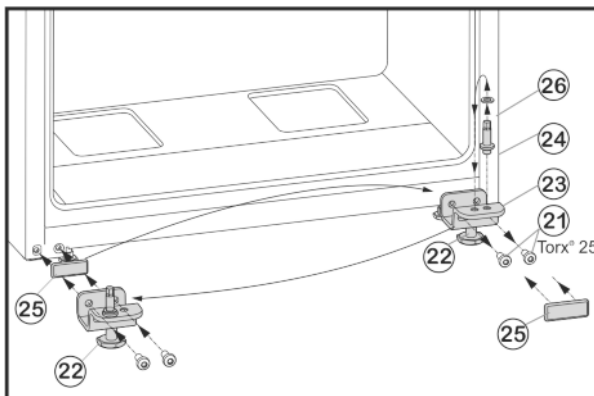

Fig. 6
- ▶ Unscrew fastening screws *Fig. 6 (21)*.
- ▶ Remove lower bearing block *Fig. 6 (23)*, complete with bearing bolt *Fig. 6 (24)*, washer *Fig. 6 (26)* and adjustable foot *Fig. 6 (22)*.
- ▶ Unscrew bearing bolt *Fig. 6 (24)* complete with washer *Fig. 6 (26)* and re-locate it into the mounting hole on the opposite side of the bearing block, tighten again.
- ▶ Carefully remove the cover plate *Fig. 6 (25)* and transfer it to the other side.
- ▶ Fasten the bearing lower block *Fig. 6 (23)* complete with bearing bolt *Fig. 6 (24)*, washer *Fig. 6 (26)* and adjustable foot *Fig. 6 (22)* to the new hinge side, with the help of a cordless screwdriver if necessary, and **tighten (with 4 Nm)** once again.
- ▶ Lower the bottom door onto the bearing bolt *Fig. 6 (24)*.
- ▶ Unscrew the adjustable foot *Fig. 6 (22)* on the lower bearing block *Fig. 6 (23)* until it reaches the floor.